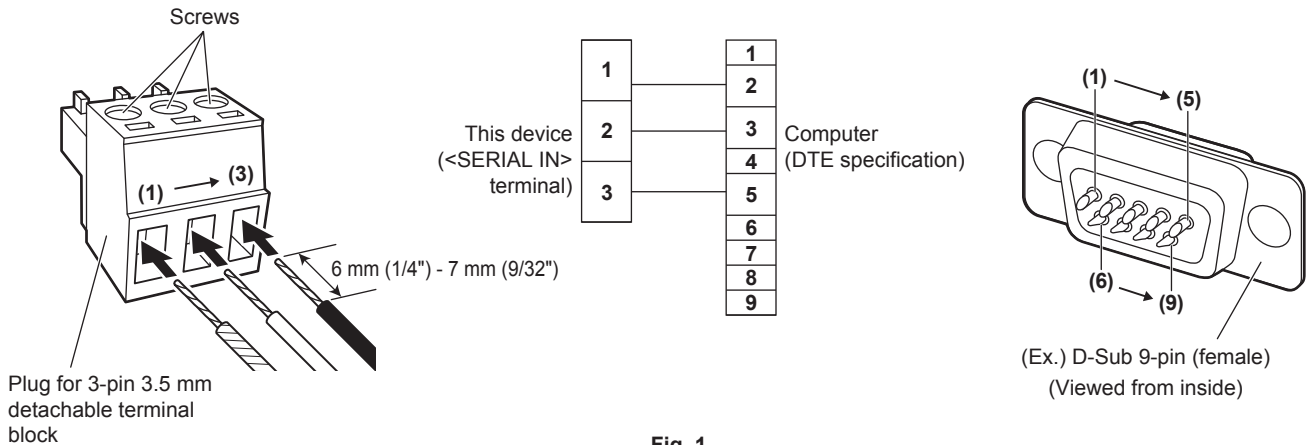

Fig. 1
- 1) **Insert lead wires into the supplied Plug for 3-pin 3.5 mm detachable terminal block. (Fig. 1)**
- 3) **Connect the other side of the lead wire to the corresponding pin of the D-Sub 9-pin (female) connector (Fig. 1).**